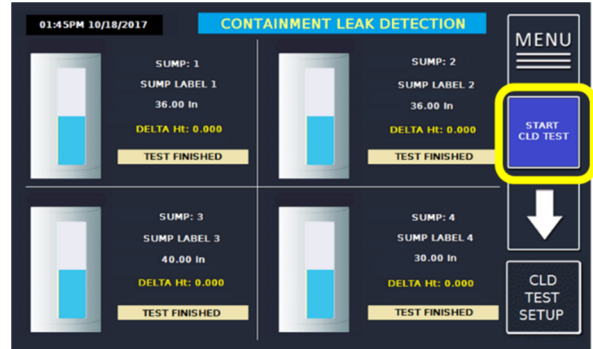

Figure 6.0
1. From the CONTAINMENT LEAK DETECTION screen, press START CLD TEST (YELLOW; Figure 6.0).